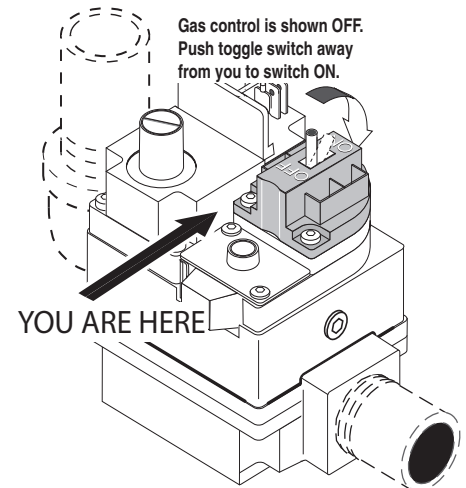

Figure 37.
- Toggle-Style Valve:** Pull toggle toward you to turn gas off , see Figure 37.
- Wait five (5) minutes to clear out any gas. If you then smell gas, **STOP!** Follow “B” in the “Before Start-up” instructions (page 42). If you don’t smell gas, go to the next step.
- Toggle-Style Valve:** Pull toggle toward you to turn gas off, see Figure 37.